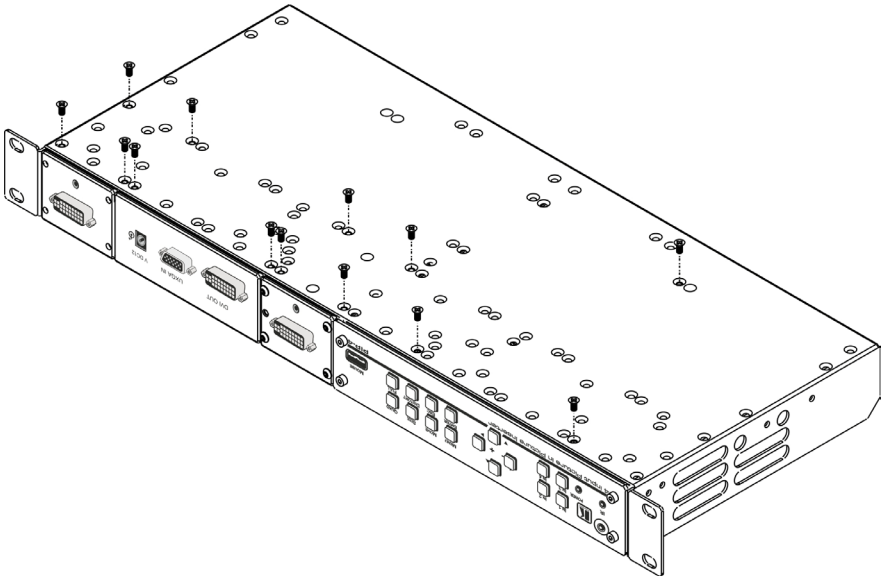

Figure 2: RK-1 Rack Adapter – Underside
3. Insert and the appropriate amount of screws through the holes on the **RK-1** that fit the holes on the underside of the **PIP-4**, using the M3x5 screws supplied with the unit (as illustrated in Figure 2).